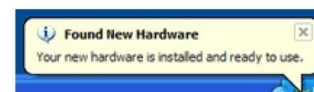

Figure 1: Desktop Notification for Driver Installation
1. Connect a USB Cable from PC to the torque device. The HID driver will self-install and prompt you when the process is complete (See Figure 1).